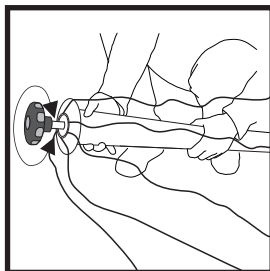

Fig. 10
16. After placing the pole crown, screw it with the black knob through an eyelet attached to the top of the roof (Fig.10).